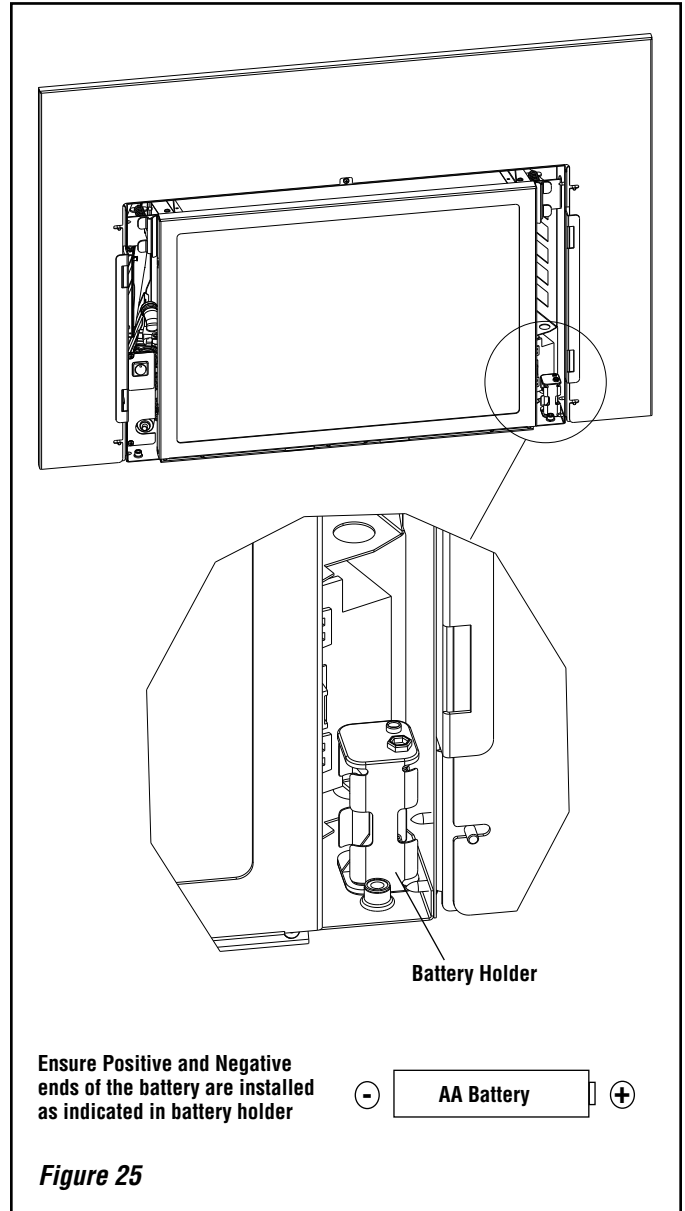

Figure 25
This appliance is equipped with a battery backup system. It requires four (4) "AA" batteries to power the appliance (without the blower) during a power outage. Install the batteries into the battery holder per instructions in **Figure 25**.